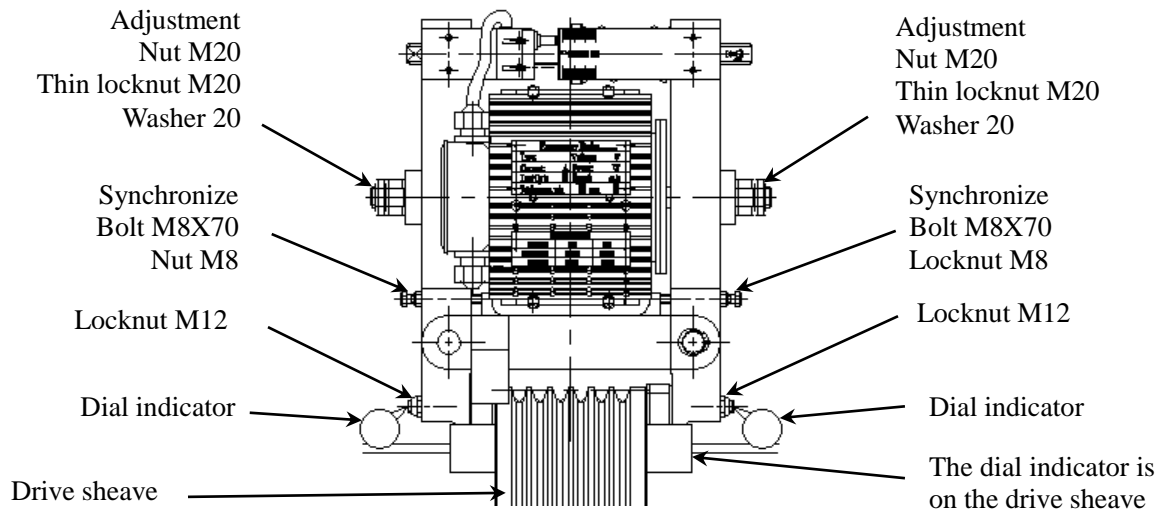

Figure 16
2. If the gap is too big loosen (1/6th of a turn at a time) the thin locknut M20 and nut M20 with a 30mm open end wrench counter-clockwise to reduce it. See Figure 16. Otherwise, tighten (1/6th of a turn at a time) the nut M20 clockwise to increase it.
3. Attach two (2) dial indicators to the side of the drive sheave with the gauge head touching brake arm part I on one side and brake arm part II on the other side. See Figure 16. Check that the reading of the two dial indicators $\leq 0.25\text{mm}$ (0.01”), when the state of brake changes from open to closed.
Note: The dial indicators must be attached to the sheave as shown in Figure 16.